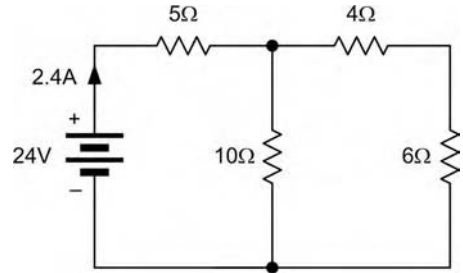

Figure 5.45
8. Determine the voltage drop across the $10\ \Omega$ resistor shown in Figure 5.45.